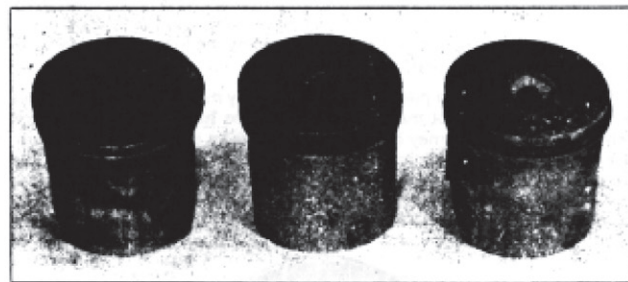

Figure 4—The Effects of Detonation or Preignition on Pistons.
**Detonation:** The photo in Figure 4 shows three pistons experiencing detonation in several stages of failure. The piston dome is being bored by the intense and concentrated heat caused by a spark plug firing too far advanced (BTDC). The piston on the right shows a complete penetration of the piston dome by detonation. This is a common result when a pilot "attempts to set" his timing armed with just a gap gauge. [See "Timing the Rotax Motor," September 1986.]